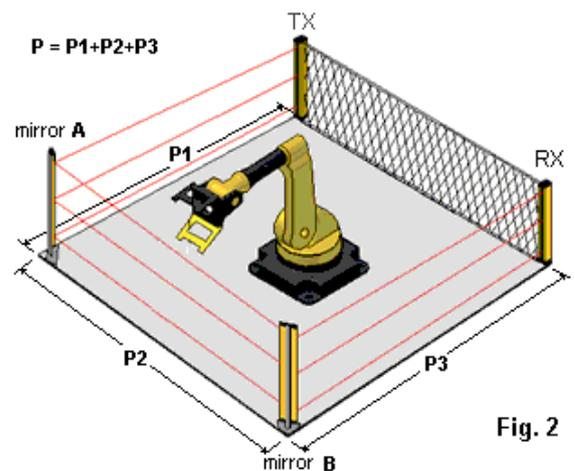

Fig. 2
- Protection to “ U “ shape when the barrier must protect 3 sides with employ of 2 mirrors as fig. 2